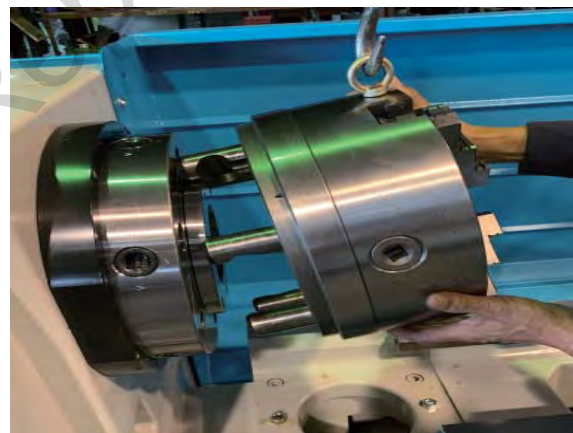

Figure 30. Example of removing a 3-jaw chuck from a spindle nose.
5. With a rocking motion, carefully remove the chuck or faceplate from the spindle nose, as shown in **Figure 30**, making sure to support the weight with an adequate chuck cradle.